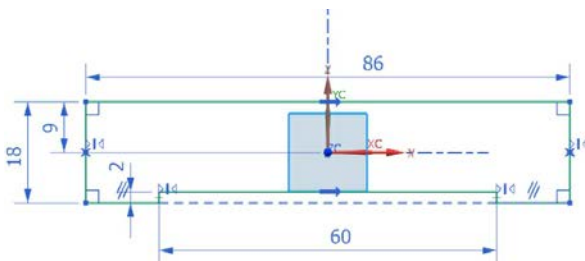

Figure 6-80 Sketch for the base feature
- Draw the sketch for the base feature and extrude it, refer to Figures 6-80 and 6-81.
2. Draw the sketch by using the YC-ZC plane as shown in Figure 6-80.